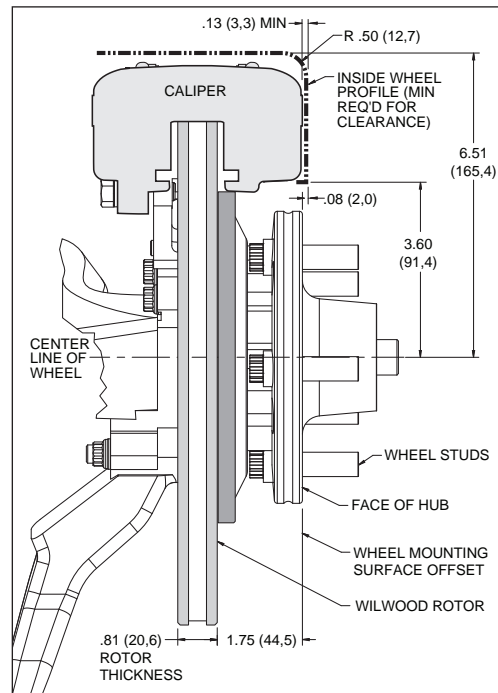

Figure 3. Wheel Clearance Diagram
- Verify wheel clearance using Figure 3.
- WARNING:** The wheel contact surfaces must seat completely on the face of the hub. If any contact surfaces overhang the outside diameter of the hub face, a 6.60" diameter x .20" thick steel spacer (item 24, Wilwood P/N 300-11961) MUST be used between the wheel and the hub.